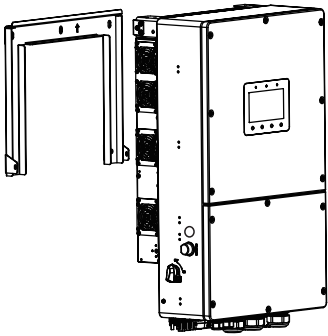

Figure 3.7 Wall mount bracket
2. Lift the inverter to align the rear bracket with the mounting bracket's convex section, and hang it in place. Verify it is securely seated (Figure 3.7).